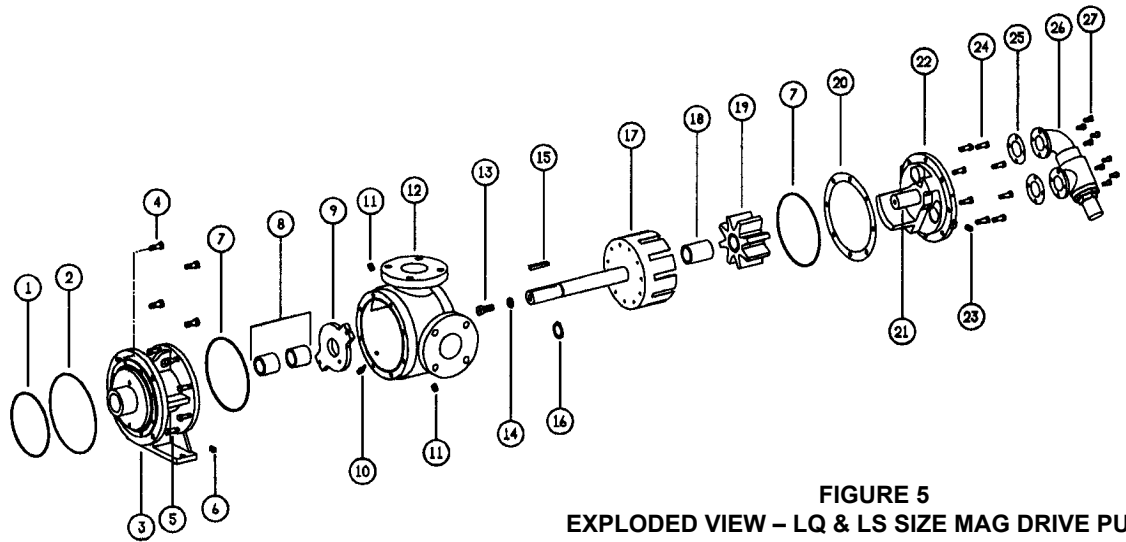

FIGURE 5
1. See **Figure 5** or **Figure 6** on **page 5** for name of parts.